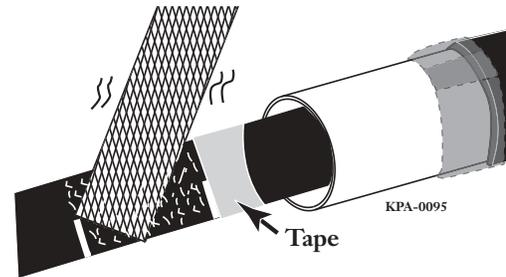

Figure 3
**Step 5** Using a file, scuff the cable sheath between the two marks (approximately  $\frac{3}{4}$  inch). Ensure the cable sheath is completely scuffed around the circumference to allow the epoxy to adhere to the cable when the plug is poured (Figure 3).